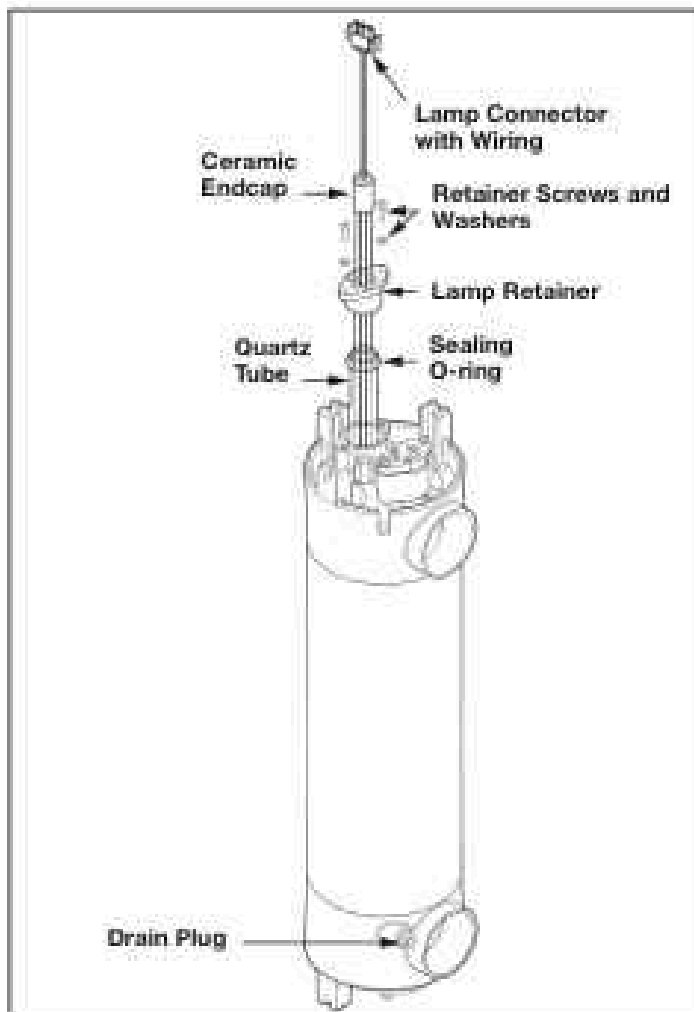

Figure 15. UV Reactor Subassembly
3. Before continuing, allow adequate time for the quartz tubes to cool. Drain the water from the UV reactor by removing the drain plug. Replace the plug once water has stopped exiting the UV reactor. See Figure 15.
4. Grasp the UV lamp wires and gently pull until the top of the UV lamp has pulled past the lamp retainer tabs. See Figure 15.
6. After removing the lamps, remove the top lamp retainer screws using the hex key included in the parts bag. Place the lamp retainer screws, washers and the lamp retainer aside in a safe place. See Figure 15.
7. Grasp the quartz tube from the top of the UV reactor. Pull to remove it from the UV reactor. See Figure 15.
8. Remove the sealing O-ring from the top of the quartz tube. Set aside in a safe place. See Figure 15.